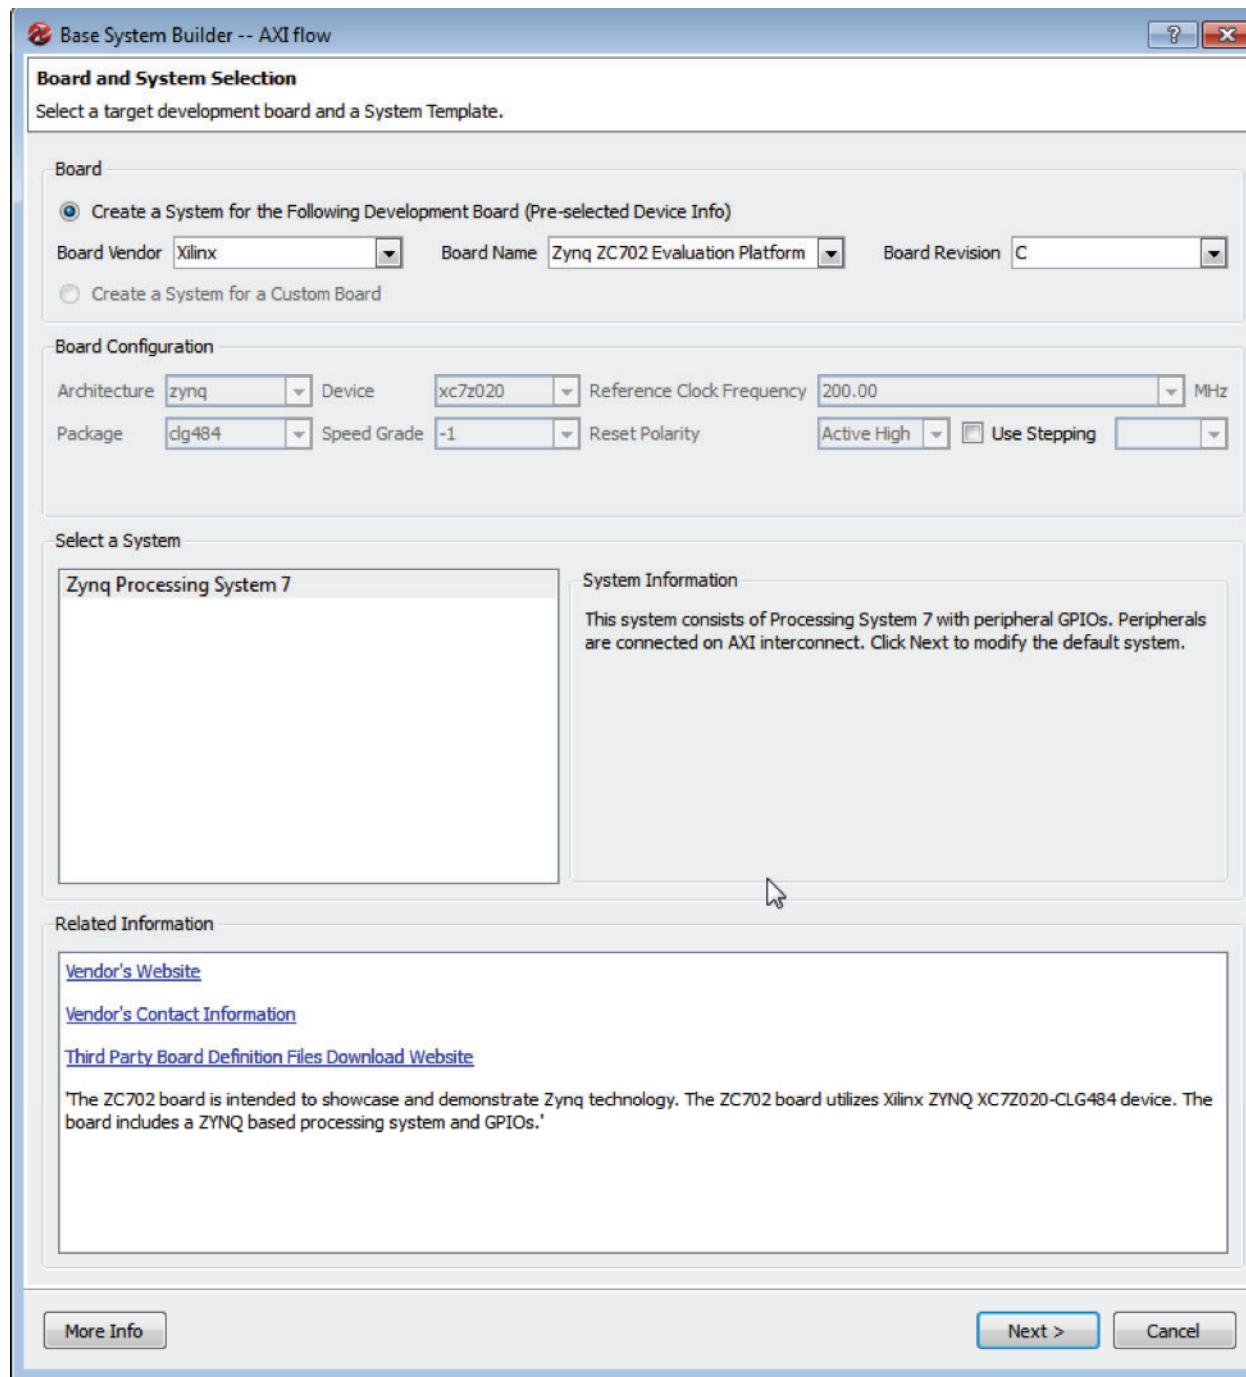

Figure 25: Board and System Selection Page of Base System Builder Wizard
7. The Base System Builder wizard, Board and System Selection page appears as shown in Figure 25. Click **Next**.